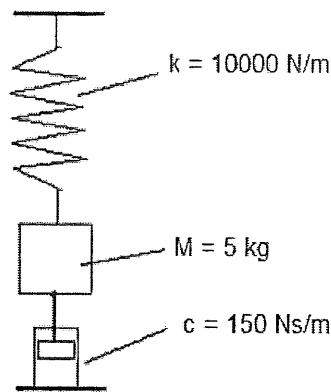

Figure 6
- a) The diagram in Figure 6 shows a mass-spring-dashpot system. The mass has a harmonic disturbing force applied to it given by the equation  $F = 400 \sin(30t)$  Newton.